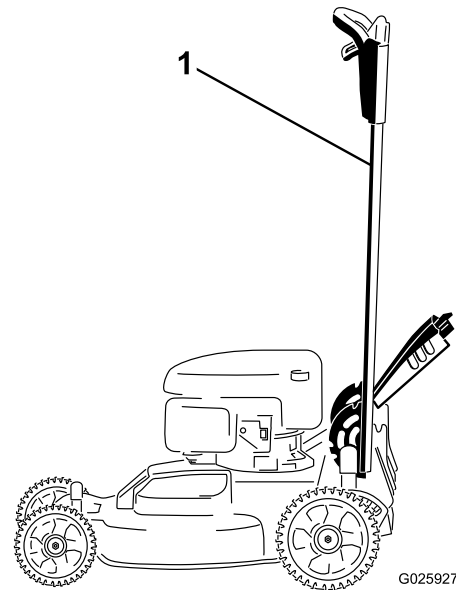

Figure 37
1. Lock the handle in the vertical position (Figure 37); refer to Adjusting the Handle Height (page 10).